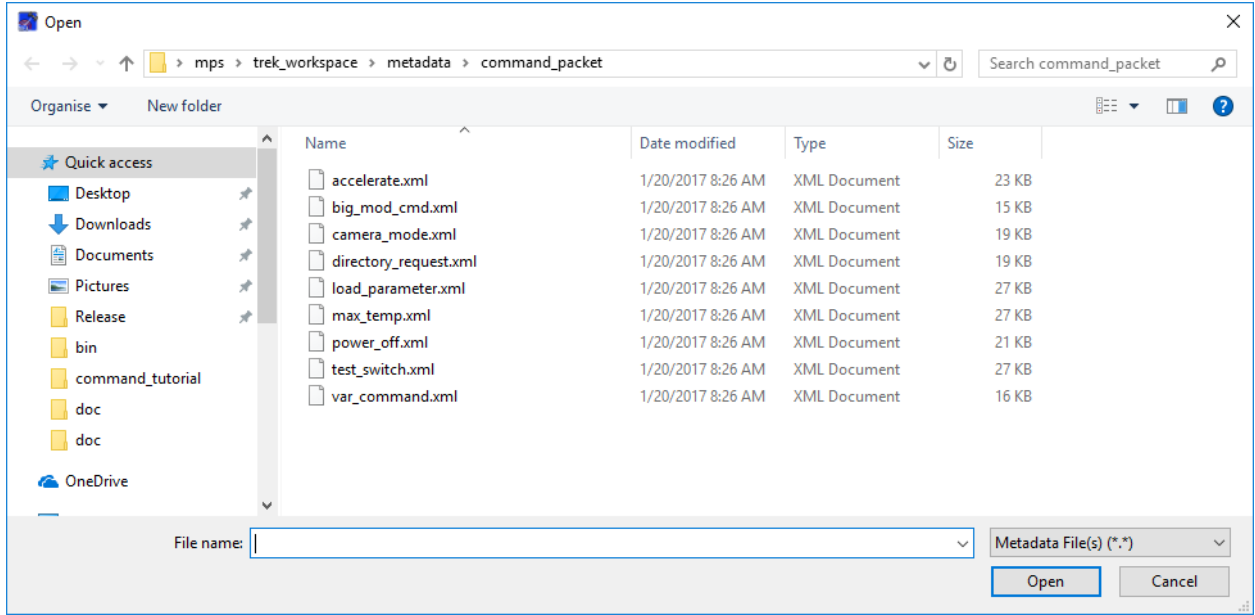

Figure 8 Command Metadata Files
6. Push the Browse Disk button. The open dialog will default to the `trek_workspace/metadata/command_packet` directory as shown in Figure 8.